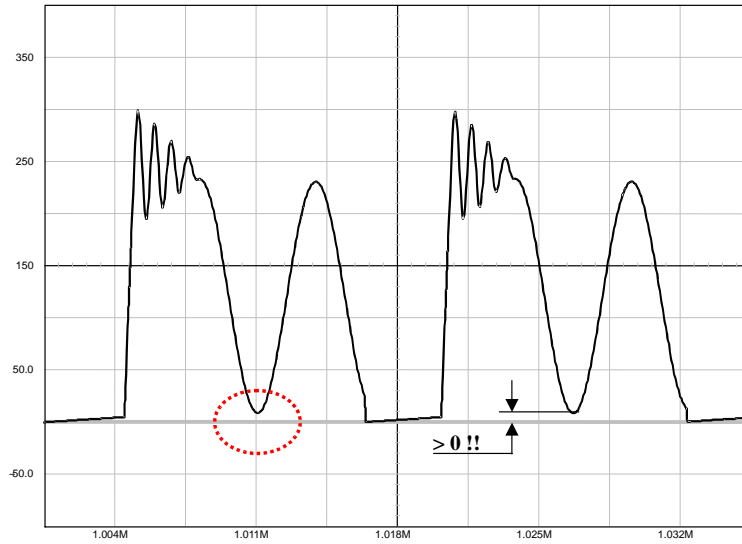

Figure 28. The Drain–Source Wave Shall Always be Positive . . .
1. In any case, the lateral MOSFET body–diode shall never be forward biased, either during startup (because of a large leakage inductance) or in normal operation as shown by Figure 28.